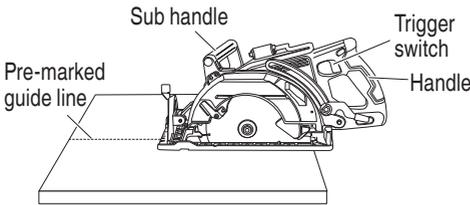

Fig. 29
- (3) Ensure that the switch is turned to the ON position before the saw blade comes in contact with the lumber. The switch is turned ON when the trigger switch is squeezed; and OFF when the trigger switch is released. Moving the saw straight at a constant speed will produce optimum cutting. (Fig. 29)